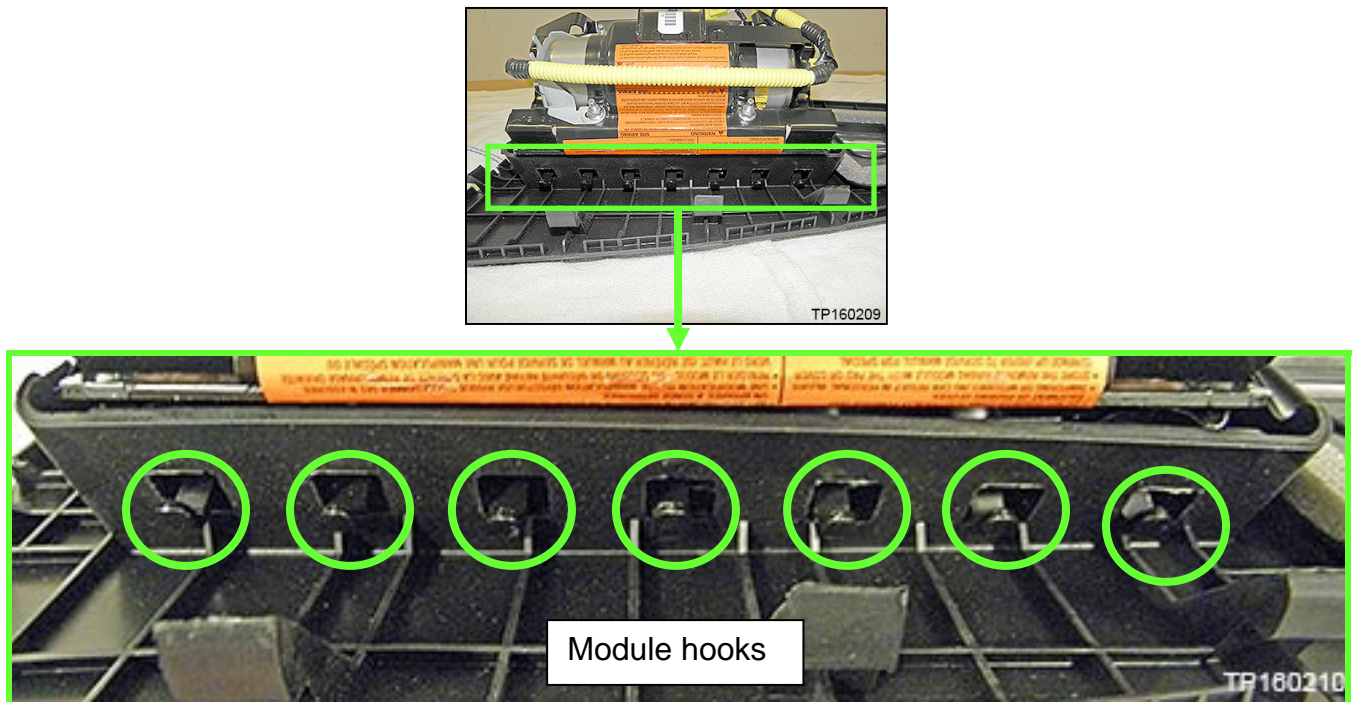

Figure 3
- a. Detach the module hooks (Figure 3) one at a time, starting at one end and then working towards the opposite end (seven hooks).